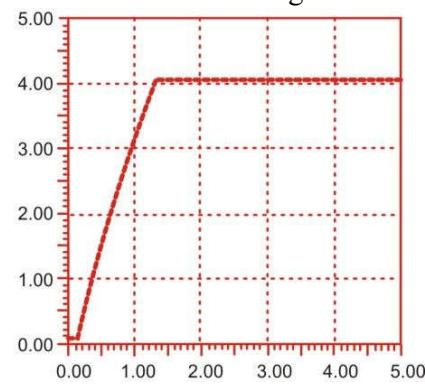

Figure 21
4. Check the transient response of 1st order system output on Digital storage oscilloscope; you will observe the response as shown in figure 21. You can easily observe the effect of PID by adjusting KP, KI & KD knobs.